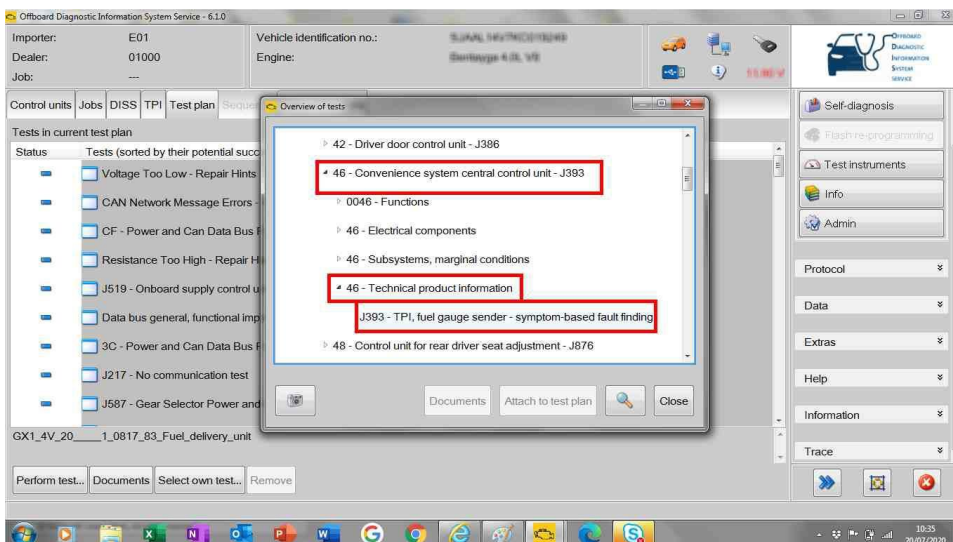

Figure 4.
- Select “46- Convenience system central control unit - J393” – figure 4.
- Select “46 - Technical product information” – figure 4.
- Select “J393 - Fuel gauge sender – symptom-based fault finding” – figure 4.